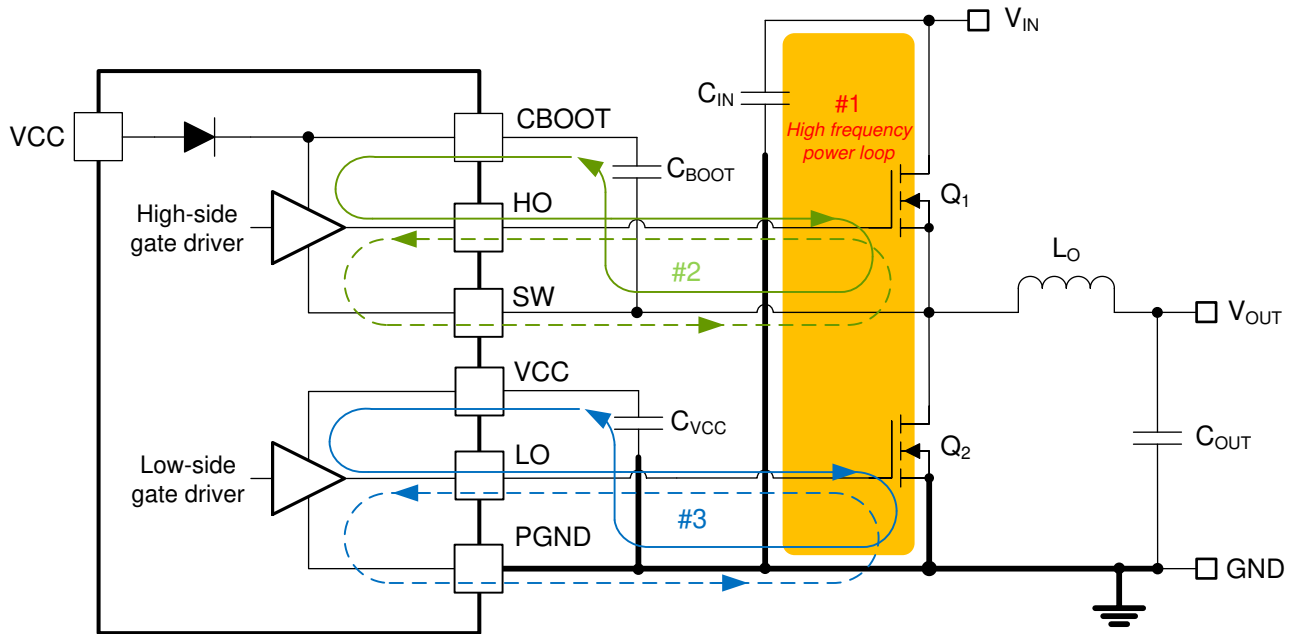

Figure 9-46. DC/DC Regulator Ground System With Power Stage and Gate Drive Circuit Switching Loops
Proper PCB design and layout is important in a high-current, fast-switching circuit (with high current and voltage slew rates) to achieve a robust and reliable design. As expected, certain issues must be considered before designing a PCB layout using the LM5148. The high-frequency power loop of a buck regulator power stage is denoted by loop 1 in the shaded area of Figure 9-46. The topological architecture of a buck regulator means that particularly high di/dt current flows in the components of loop 1, and it becomes mandatory to reduce the parasitic inductance of this loop by minimizing its effective loop area. Also important are the gate drive loops of the high-side and low-side MOSFETs, denoted by 2 and 3, respectively, in Figure 9-46.
- Loop 1: The most important loop area to minimize is the path from the input capacitor or capacitors through the high- and low-side MOSFETs, and back to the capacitor or capacitors through the ground connection. Connect the input capacitor or capacitors negative terminal close to the source of the low-side MOSFET (at ground). Similarly, connect the input capacitor or capacitors positive terminal close to the drain of the high-side MOSFET (at V_{IN}). Refer to loop 1 of Figure 9-46.
- The SW pin connects to the switch node of the power conversion stage and acts as the return path for the high-side gate driver. The parasitic inductance inherent to loop 1 in Figure 9-46 and the output capacitance (C_{OSS}) of both power MOSFETs form a resonant circuit that induces high frequency (greater than 50 MHz) ringing at the SW node. The voltage peak of this ringing, if not controlled, can be significantly higher than the input voltage. Make sure that the peak ringing amplitude does not exceed the absolute maximum rating limit for the SW pin. In many cases, a series resistor and capacitor snubber network connected from the SW node to GND damps the ringing and decreases the peak amplitude. Provide provisions for snubber network
- Loop 2: high-side MOSFET, Q_1 . During the high-side MOSFET turnon, high current flows from the bootstrap (boot) capacitor through the gate driver and high-side MOSFET, and back to the negative terminal of the boot capacitor through the SW connection. Conversely, to turn off the high-side MOSFET, high current flows from the gate of the high-side MOSFET through the gate driver and SW, and back to the source of the high-side MOSFET through the SW trace. Refer to loop 2 of Figure 9-46.
- Loop 3: low-side MOSFET, Q_2 . During the low-side MOSFET turnon, high current flows from the VCC decoupling capacitor through the gate driver and low-side MOSFET, and back to the negative terminal of the capacitor through ground. Conversely, to turn off the low-side MOSFET, high current flows from the gate of the low-side MOSFET through the gate driver and GND, and back to the source of the low-side MOSFET through ground. Refer to loop 3 of Figure 9-46.